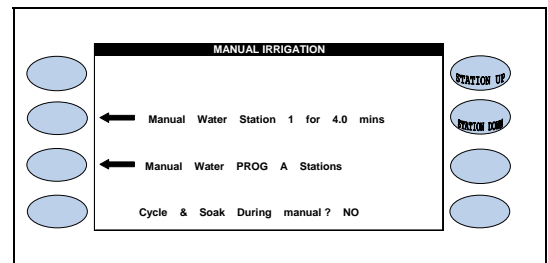

Figure 10.2
The MANUAL IRRIGATION screen is displayed (Figure 10.2).
From the MANUAL IRRIGATION screen (Figure 10.2).
1. Press the **PLUS** or **MINUS** keys to change the **CYCLE & SOAK DURING MANUAL** setting (Figure 10.2).